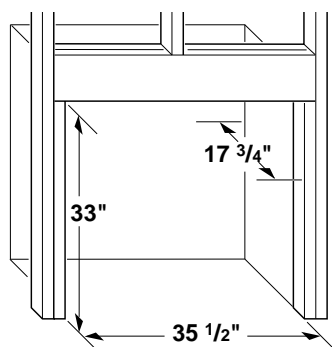

Figure 13 - Rough Opening for Installing in Wall
1. Frame in rough opening. Use dimensions shown in Figure 13 for the rough opening.